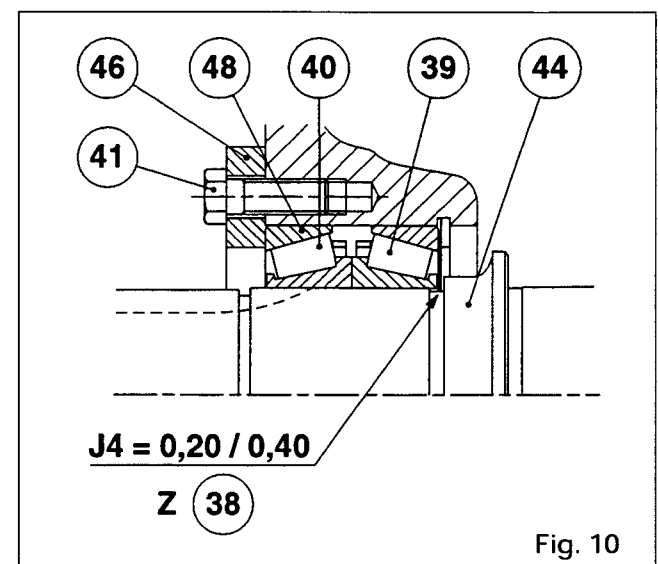

Fig. 10
According to the measurement read on the dial gauge, determine the thickness of shims Z (38) to obtain play J4 (Fig. 10).
- Remove the bolts (41) and the locking ring (46).
- Remove the cup (48).
- Withdraw the cones (40) and (39).
- Slide the following components onto the shaft: the required thickness of shims Z (38), cone (39) and cone (40).